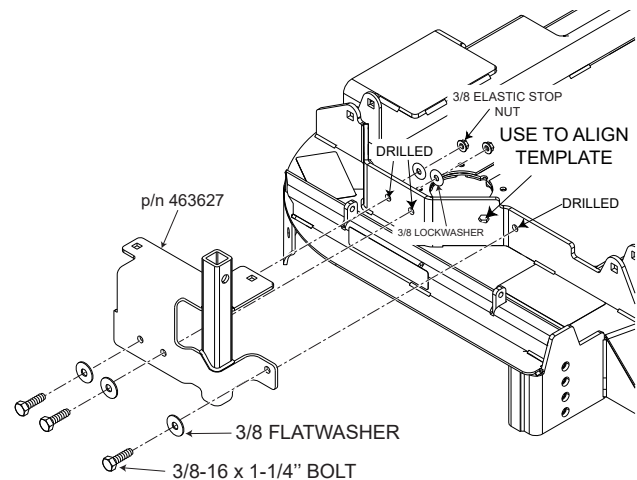
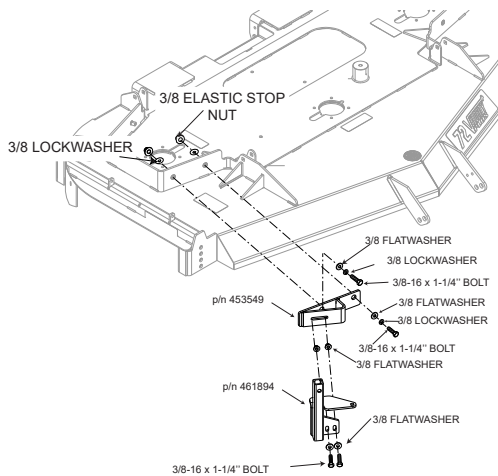

Figure 2-5. Blower Mounting Post Installation (52V)
Figure 2-7. Blower Mounting Post Installation (72V)
- Bump mounting post (p/n 463627) to stiffener and clamp in place. Align edges. See Figure 2-5. Drill (.391 or 3/8" drill bit) holes and bolt in place.
- Install the blower mounting post to the deck using 3/8-16 x 1 1/4" bolts (p/n 04001-32), 3/8 flatwashers (p/n 04041-07), 3/8 lockwasher (p/n 04030-04), and 3/8-16 elastic stop nut (p/n 04021-09). Do not fully tighten the hardware at this time. See Figure 2-5 through Figure 2-7.